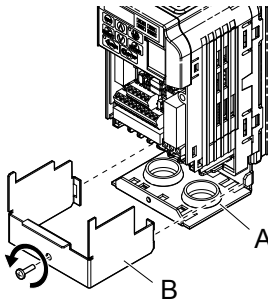

Figure 7.13 Remove the Terminal Cover on a NEMA Type 1 Drive
2. Loosen the screw on the terminal cover (Figure 7.13, B) to remove the terminal cover and expose the conduit bracket (Figure 7.13, A).